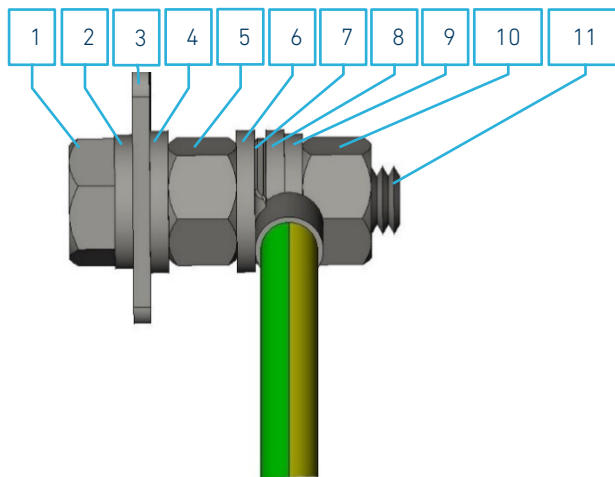

Figure 2.21: arrangement of nuts and washers on the protective conductor connection of the safety cover
7. Connect the housing to the protective earth of the entire system using the screw on the left side of the safety cover. Use a protective earth connection cable of at least 4 mm² for this purpose. For the arrangement of the washers and nuts, see Figure 2.21.